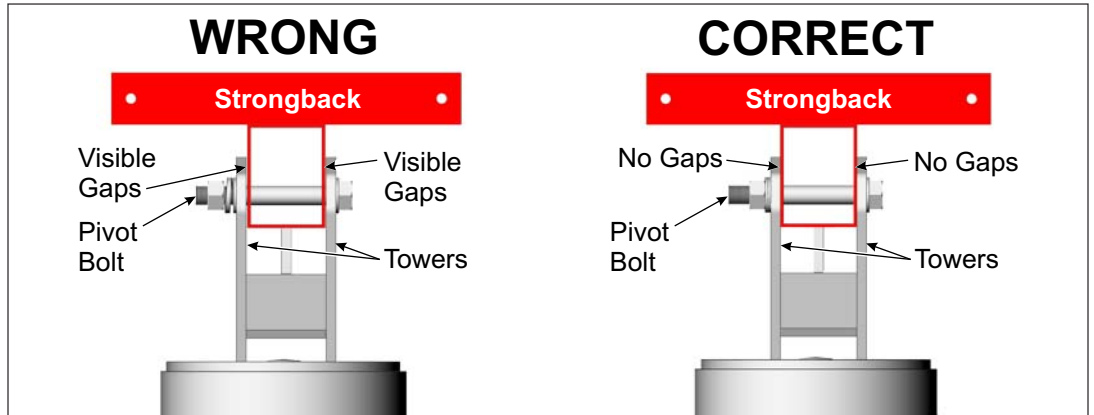

Figure 7-3: Tighten and Torque the Pivot Bolt
- C. After changing the tilt angle and tightening the Support Bar hardware, the Pivot Bolt must be re-tightened. The Mounting Sleeve Vertical Towers must be firmly clamped to the sides of the Strongback eliminating any gaps between the Vertical Towers and the Strongback. **Torque to 125-150 ft.-lbs.** (See Figure 7-3)